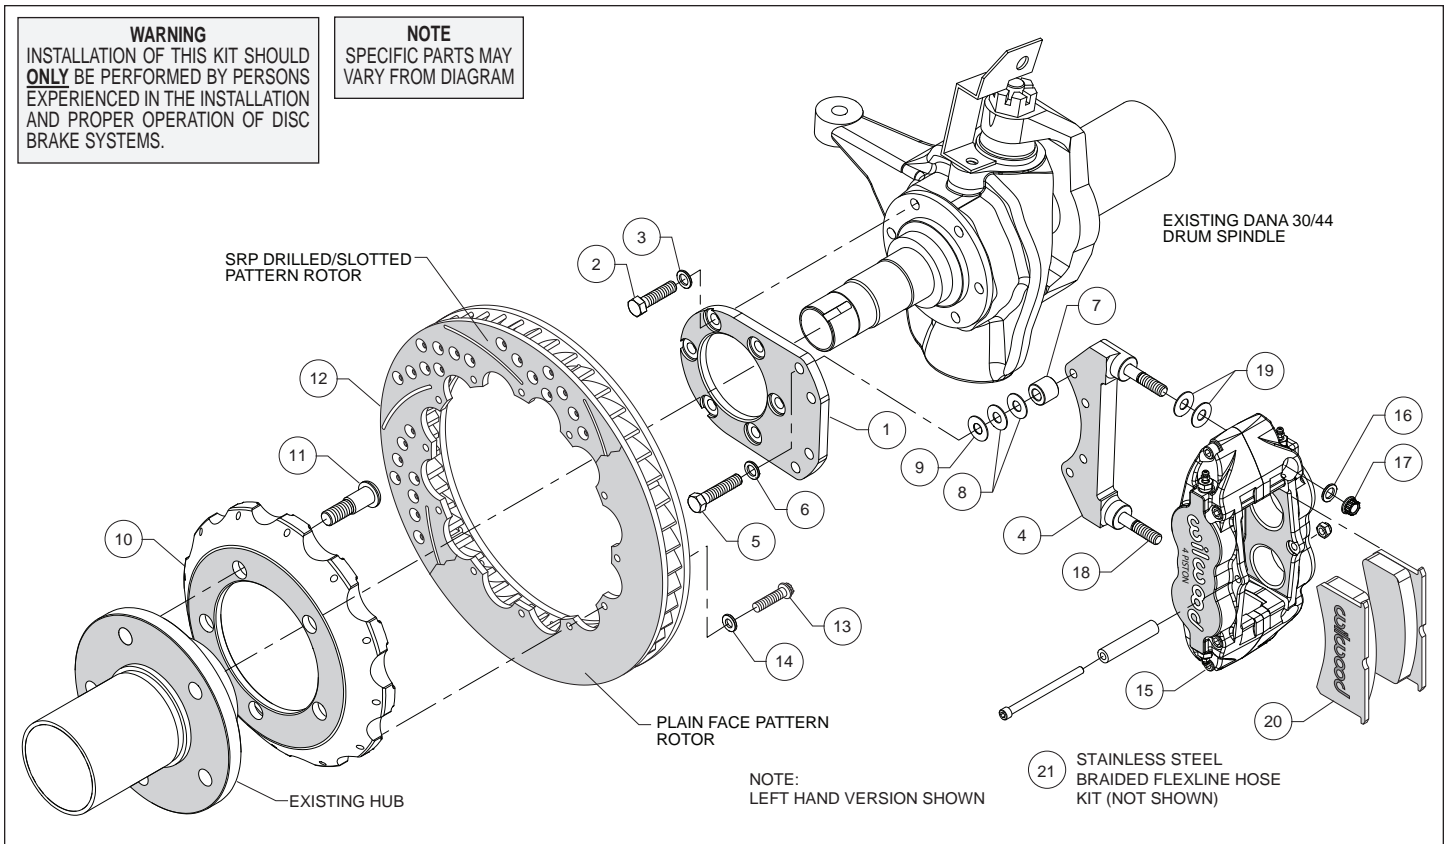
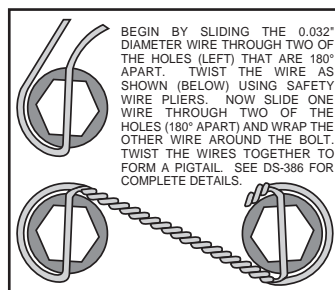

Figure 1. Typical Installation Configuration
Figure 3. Safety Wire Diagram
**Assembly Instructions** (numbers in parenthesis refer to the parts list and Figure 1 on the preceding pages):
- Orient the flat mount bracket (1) as shown in Figure 1 and Photo 1, and install using bolts (2), and washers (3). Ensure that the counterbored holes in the bracket are facing outboard, Figure 1. Temporarily tighten the mounting bolts. **NOTE:** *The bracket must fit squarely against the mount bosses on the upright.* Inspect for interference from casting irregularities, machining ridges, burrs, etc. Remove bolts one at a time, apply red *Loctite*® 271 to the threads and torque to 40 ft-lb.
- The caliper mount bracket (4) should initially be installed with clean, dry threads on the mounting bolts. Orient the bracket as shown in Figure 1 and Photo 2, and install using mount bolts (5) and washers (6). Initially place two .035" thick shims (8) and spacer (7) on each bolt between the flat and caliper brackets, Figure 1. Temporarily tighten the mounting bolts. Later, after the caliper alignment has been checked, the mount bolts will be secured using red *Loctite*® 271.
- Orient the hat (10) and the OEM hub as shown in Figure 1 and Photo 3. **NOTE:** *The hat must fit flush against the axle hub or excessive rotor run out may result.* Press fit the wheel studs (11) thru the holes in the hat and into the existing hub. **NOTE:** *We recommend this procedure be performed by a qualified machinist.*
- Orient the rotor (12) and the hat/hub assembly as shown in Figure 1 and Photo 4. Attach rotor to hat using bolts (13) and washers (14). Using an alternating sequence, apply red *Loctite*® 271 to the threads, and torque to 155 in-lbs. For an added measure of security, the bolts may be safety wired using standard 0.032 inch diameter stainless steel safety wire as shown in Figure 3. Please refer to Wilwood's data sheet DS-386 (available at [www.wilwood.com/Pdf/DataSheets/ds386.pdf](http://www.wilwood.com/Pdf/DataSheets/ds386.pdf)) for complete safety wire installation instructions.
- Lubricate the caliper mounting studs (18) with lightweight oil. Initially place two .035" thick shims (19) on each stud as shown in Figure 1 and Photo 5. Mount the caliper (15) onto the bracket (4) using lock nuts (17) and washers (16), Figure 1. Temporarily tighten the lock nuts and view the rotor through the top opening of the caliper. The rotor should be centered in the caliper, Photo 6. If not, adjust by adding or subtracting shims (8 and/or 9) between the spindle bracket and caliper bracket. Always use the same amount of shims on each of the four mounting bolts. Once the caliper alignment is correct, remove the bracket to bracket mounting bolts (5) one at a time, apply red *Loctite*® 271 to the threads, and torque to 35 ft-lb.